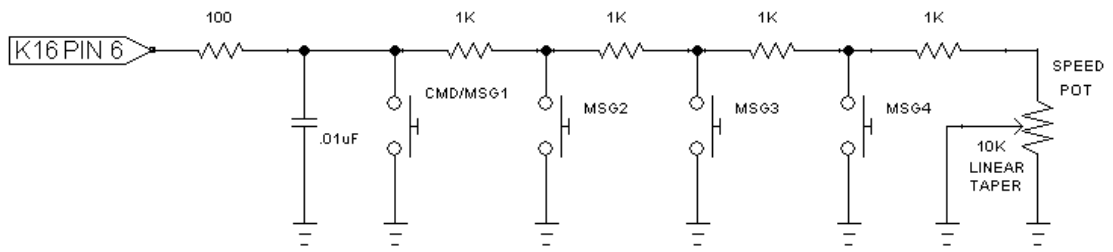

Figure 5 – Pushbutton/Speed Pot Matrix used on the K16 EXT board
The speed pot is sensed by the same mechanism that reads pushbutton presses. This circuit is shown in Figure 5. The K16 continuously monitors the speed pot position and pushbutton matrix state. The value of the speed pot must be 10K ohm, a linear taper potentiometer is best. If a speed pot is not desired, simply jumper the S (5) pad to ground,